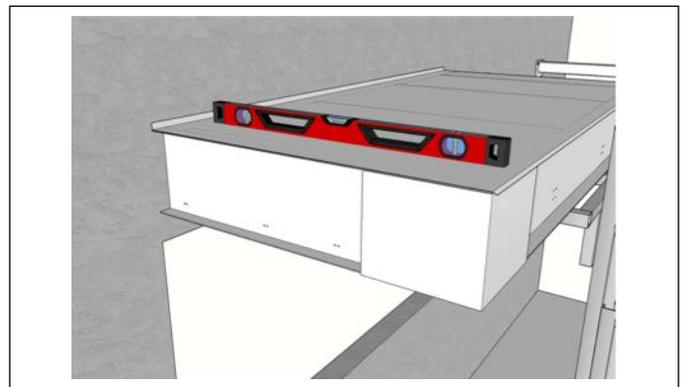

**Fig 9**
6. Make sure the canopy is tight against the wall (Fig 9). Confirm that canopy is positioned correctly on the wall, adjust if needed.